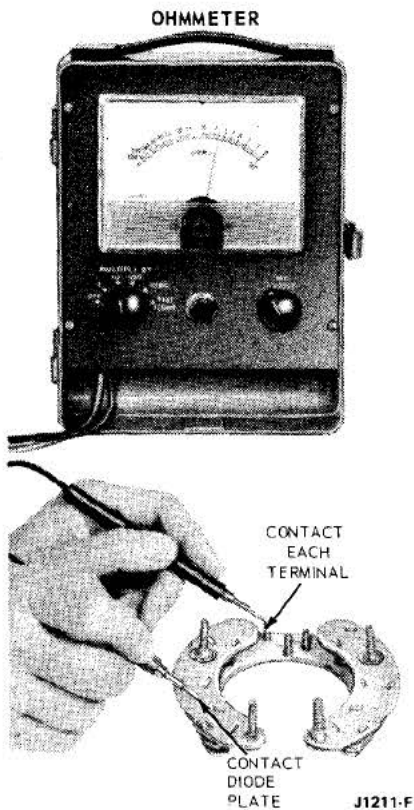

FIG. 7 Diode Test—Rear Terminal Alternator
- To test one set of diodes, contact one probe to the diode plate as shown in Fig. 7 and contact each of the three stator lead terminals with the other probe. Reverse the probes and repeat the test. All diodes should show a low reading of about 60 ohms in one direction, and an infinite reading (no needle movement) with the probes reversed.